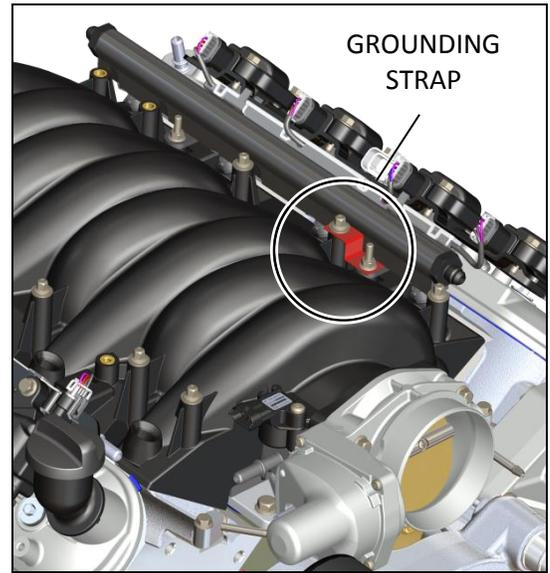

Figure 7
16. Reinstall the four rail mounting bolts. Add a grounding strap for each fuel rail from one of the intake bolts to a rail mounting bolt (**Figure 7**).